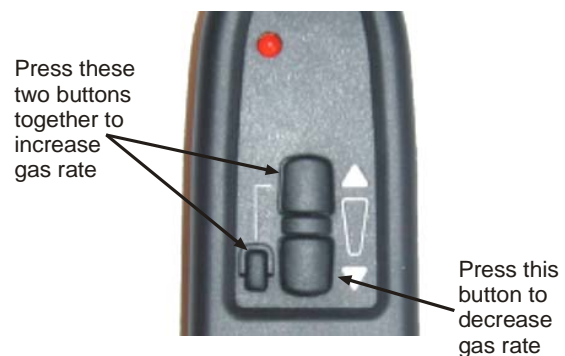

Figure 11 - Handset Operation
6. Using the HANDSET (as shown in Figure 11) press and hold both the top and the small button together until the main burner goes to full rate and clicking can be heard from the valve. During this process the main burner will ignite from the pilot.